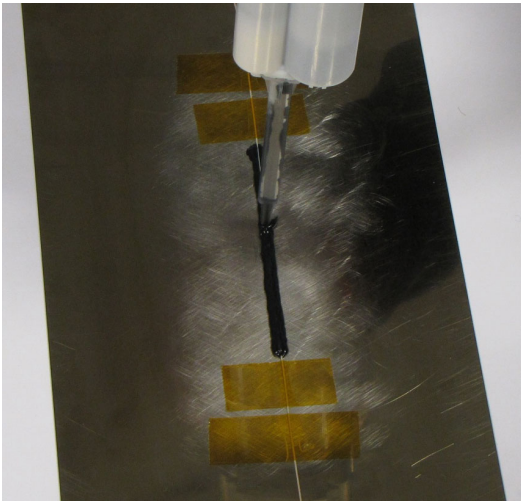

Fig. 2.13 Covering the optical fiber with the epoxy glue
- ▶ Apply a second layer of epoxy adhesive over the embedded fiber to fully cover it. To avoid air inclusions, move the mixing nozzle closely over the fiber and orthogonally to the component surface (Fig. 2.13).